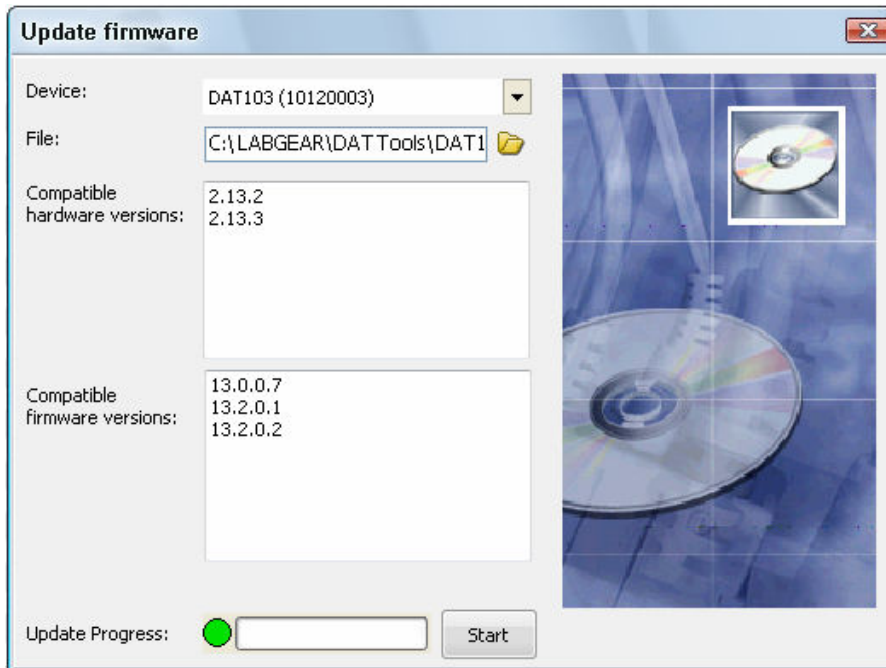

Figure 4.9.2
f) You will see the Firmware updating manager (Figure 4.9.2);